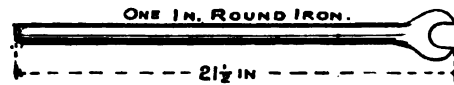

FIG. 11.—WRENCH.—Weight 5 1/4 lbs.
**Wrench.** (Fig. 11.) Extreme length 21 1-2 in., handle made of 1 in. round iron with steel jaws flat and 7-8 in. thick. Weight 5 1-2 pounds and daily out-put fifteen. The end of the handle is drawn out tapering to 1-2 in. so that it can be shoved through bolt holes in splice bars and rails in order to bring the holes opposite when putting them together. Wrenches made longer than this give a man such leverage that he can twist off the bolts without applying great force, a needless and expensive proceeding.